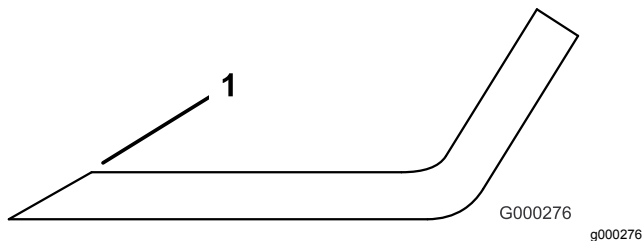

Figure 93
1. Use a file to sharpen the cutting edge at both ends of the blade (Figure 93).